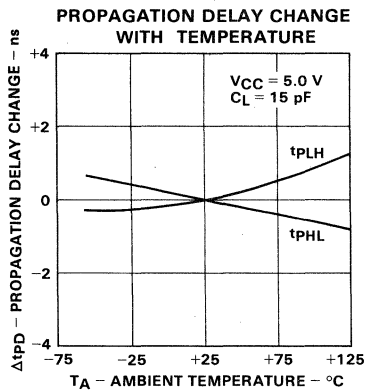

Fig. 8.
0.5 ns with  $V_{CC}$  for the military temperature and voltage ranges. (See *Figures 8 and 9*).